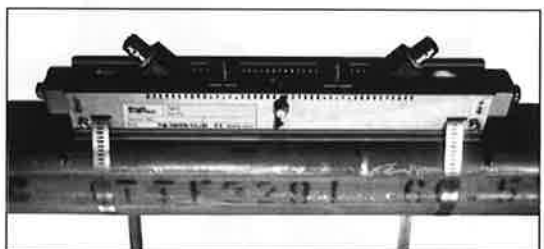

Fig. 3-10
- (3) Then insert the sensor unit into the frame, align the slit provided on the pressing fixture of the sensor unit with graduations located on the frame top surface (see Fig. 3-9), and press the sensor unit until the fixture claws are engaged with the frame side square holes. Mount both sensor units so as to be roughly symmetrical with respect to the frame. (Refer to Fig. 3-10)